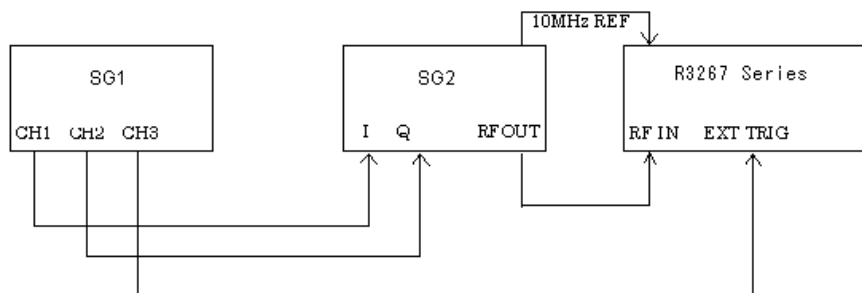

Figure 6-2 Setup of Down Link Measurement (RF Input)
1. Connect equipment as shown in Figure 6-2.